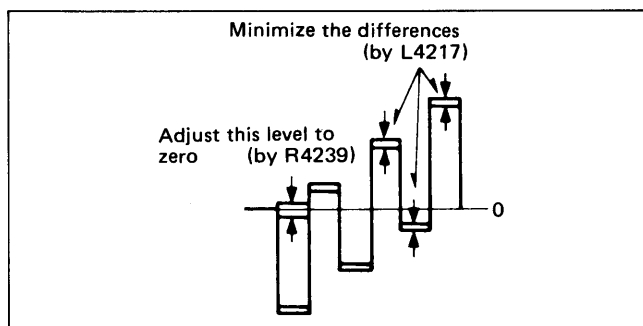

Fig. 35
- 4) Adjust Delay Line Adj. VR (R4239) and Delay Line Matching Trans. (L4217) to achieve waveform shown in Fig. 35.